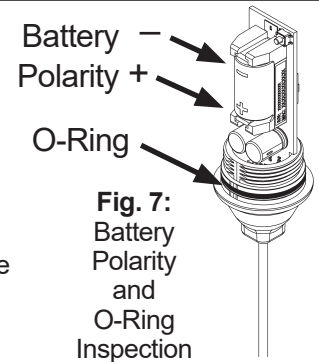

Fig. 7:
- Battery Installation:** Place the new battery in the holder in the correct orientation (Fig. 7).